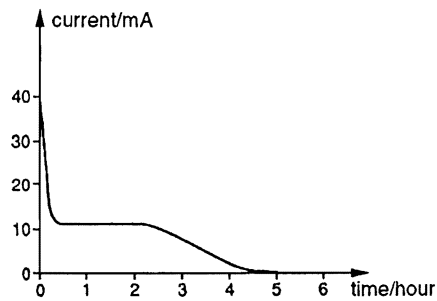

Fig. 21
Charging one of these cells should be carried out with a constant applied voltage of 3.4V and with a current density limited to 2.5 mA cm⁻². A typical charging current against time graph is shown in Fig. 21 for a cell of electrode area 50 cm².
- (d) Figure 21 shows the charging graph for a cell of the same electrode area as in (c).